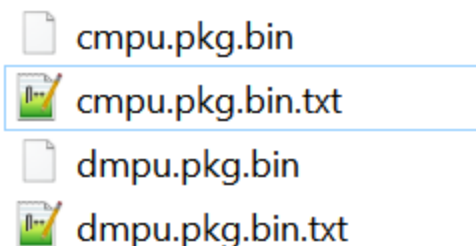

Figure 25. cmpu and dmpu hex files
- Click **Pass**. New binaries and txt files are generated in the /SBOOT/public directory, see Figure 25.